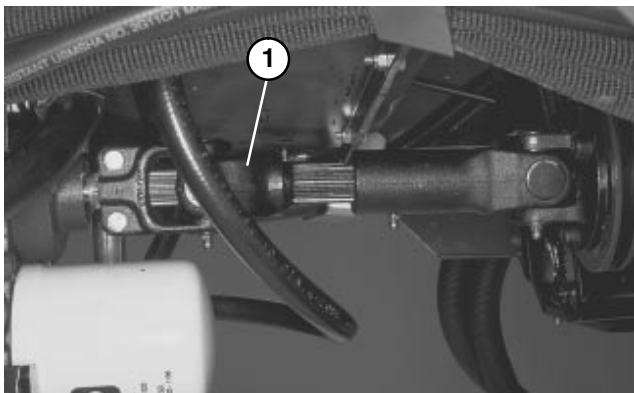

Figure 34
TOWING TRACTION UNIT (Fig. 34 & 35)
1. Loosen and remove capscrews securing the drive shaft to the engine drive coupler. Loosen capscrews clamping drive shaft to transmission (Fig. 34). Remove drive shaft.
5. When towing is completed, reinstall driveshaft as shown in figure 34. The splines are designed to allow assembly only when the two halves of the shaft are properly oriented.